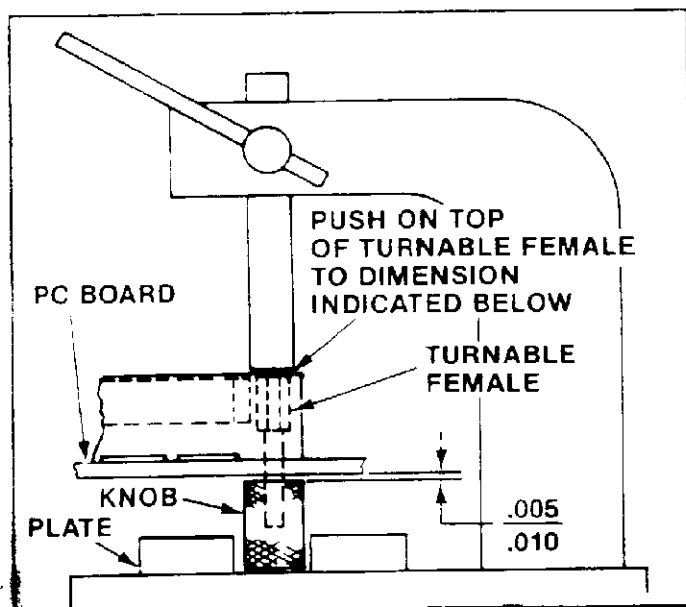

Fig. 4
6. Next, position the shank of the female jackscrew tip over the knob as shown in Figure 4; it is recommended that a plate with a .265-in.-diameter hole be used to nest the knob
during the jackscrew assembly. Seat the jackscrew into the knob by using an arbor tool (Figure 4).